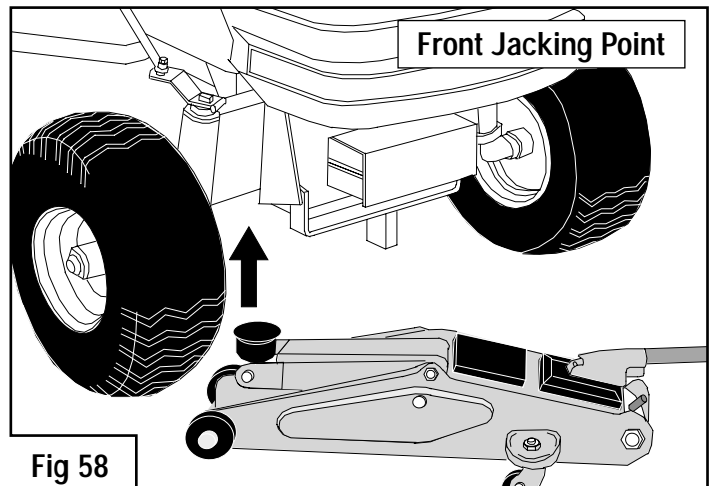

Fig 58
REMOVAL OF FRONT WHEEL - Fig 58
5. Place a jack under the front axle (fig 58) and jack up until the wheel to be removed is well clear of the ground.